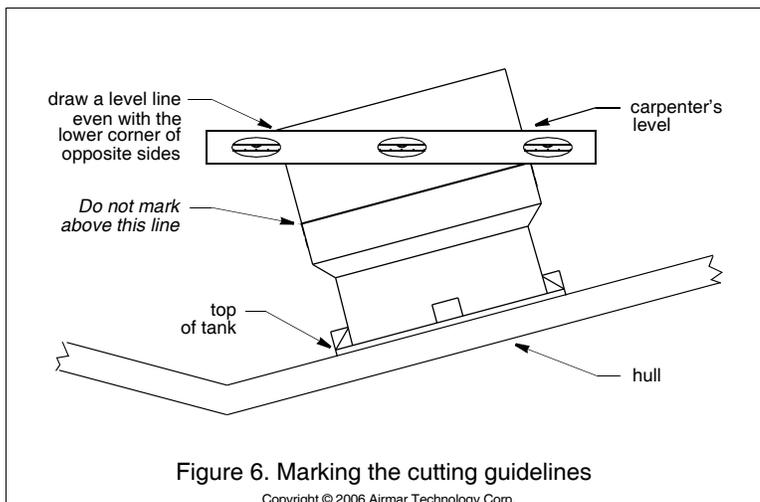

Figure 6. Marking the cutting guidelines
1. When you are satisfied that the selected mounting location is optimal, place the tank *up-side-down* on the hull (see Figure 6).